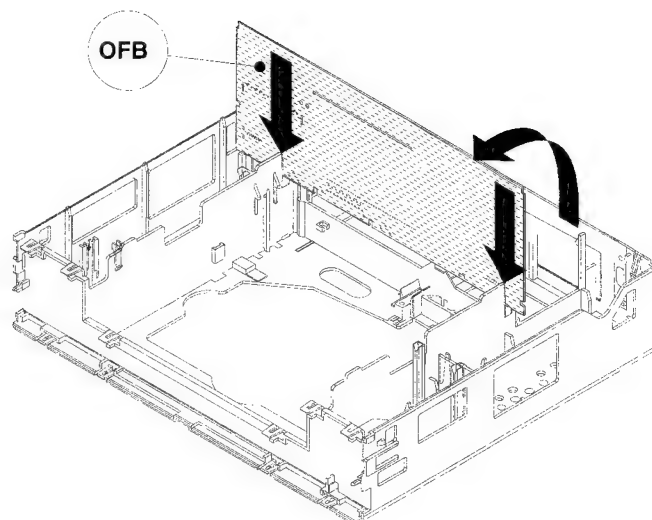

Fig. 7
- Now lift the OFB turn it into the service position (see fig. 7) and place it into the slots provided.